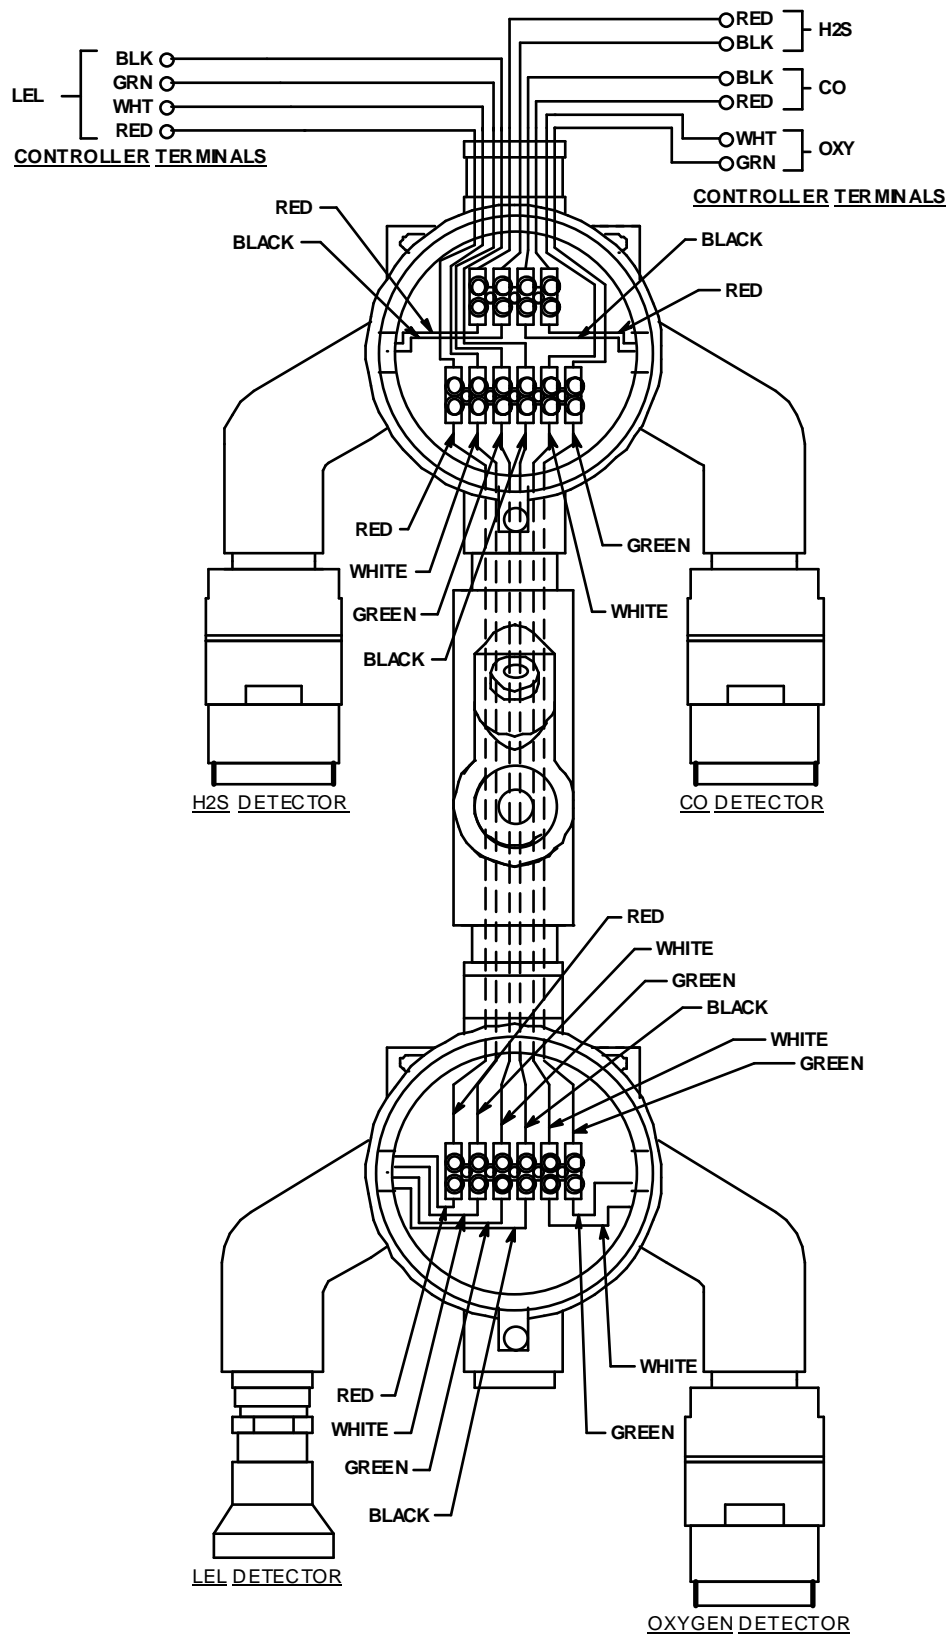
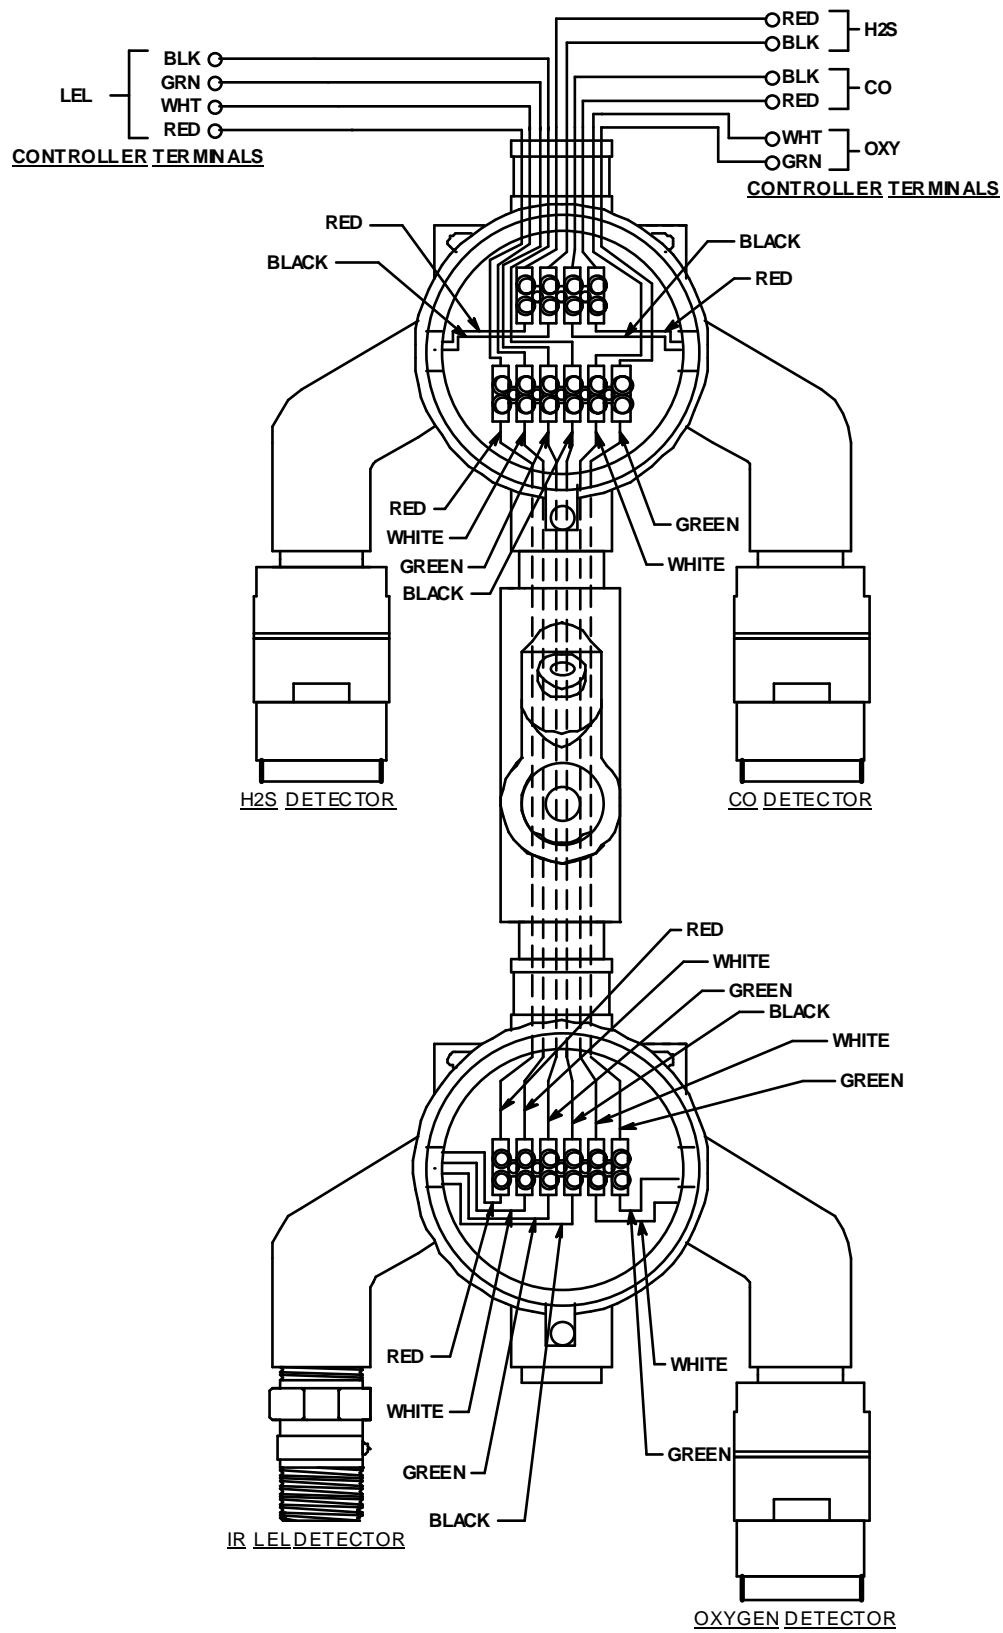

Figure 8: Wiring the 65-2481RK to a Controller
Figure 9: Wiring a 65-2481RK-01 or 65-2481RK-02 to a Controller
8. Connect the wires to the applicable controller terminal strips. See the controller operator's manual and the controller's detector head specification sheet. Also see Figure 8-Figure 9 for wiring diagrams for each detector model.
7. Connect the detector leads to the terminal block the same way the old detector was wired. See the controller operator's manual and the controller's detector head specification sheet for the LEL detector to verify the connections are correct. Also see Figure 8-Figure 9 for wiring diagrams.